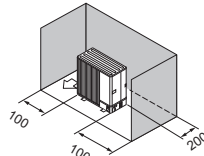

Fig. 2-8
- (3) Obstructions or closed surfaces at rear and sides only (Fig. 2-8)